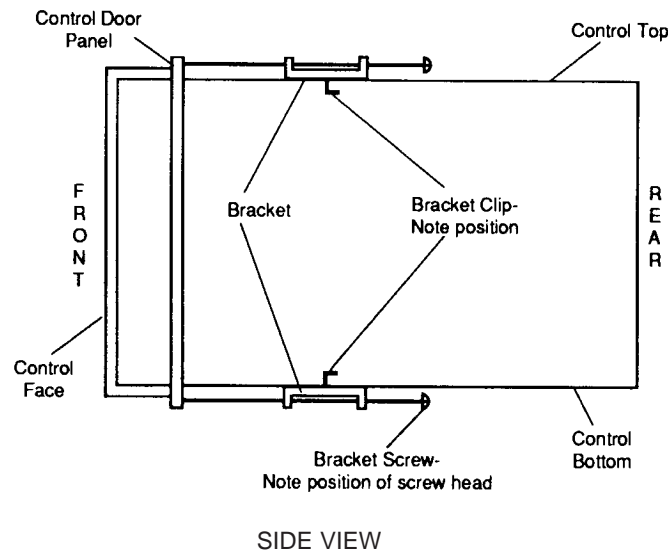

Figure 1 - Mounting Bracket Clip and Screw Position
2.	Remove the two clip style brackets on the top and bottom of the control. Remove the controller by pulling it out through the front of the panel. See Figure 1.
| 2.. | Identify the two rectangular holes on top and bottom of the control case. Attach the two panel mounting brackets with the clips of the brackets and the heads of the screws pointing towards the rear of the new controller into these rectangular holes. See Figure 1. |